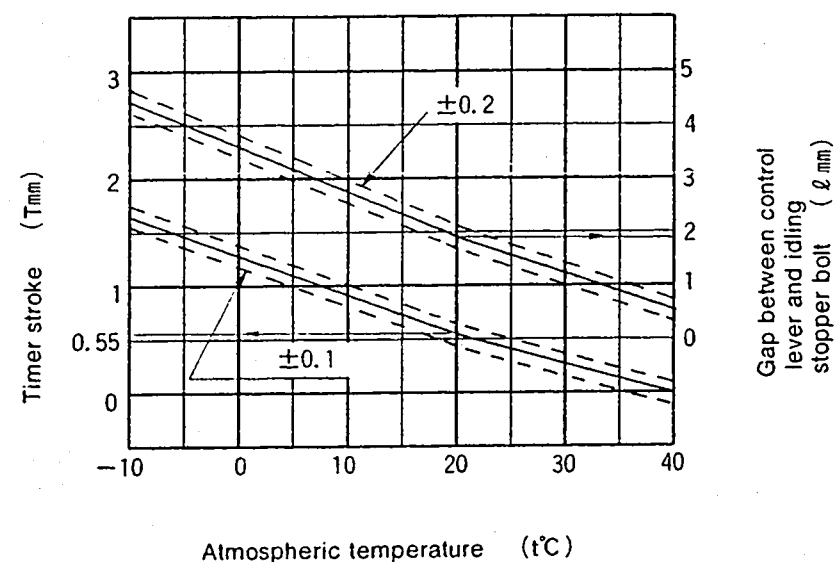

Fig. 2
1. Calculate the timer stroke from Fig. 2 according to the atmospheric temperature at the time of adjustment.
1. Calculate the block gauge dimension  $l \pm 0.05$  mm from Fig. 2 according to the atmospheric temperature at the time of adjustment.
Formula for calculating Fig. 2